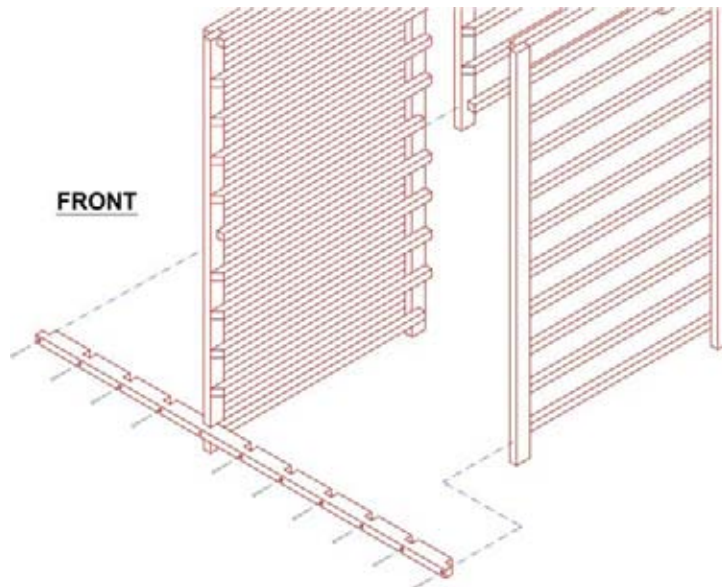

Figure 2
5. Repeat step 4 until all (9) double-sided ladders are in place.
6. Set the two single-sided ladders with the backs on the floor (angled slats facing up) and into the open end rabbet (or slot) locations (**Figure 2**). Make sure that the slat sides of the ladders face inward toward the other ladders. Align the spacer bar at the spacer slat location. Pre-drill through the existing screw holes on your spacer bar and into the ladder uprights. Secure both ladders with screws as before.